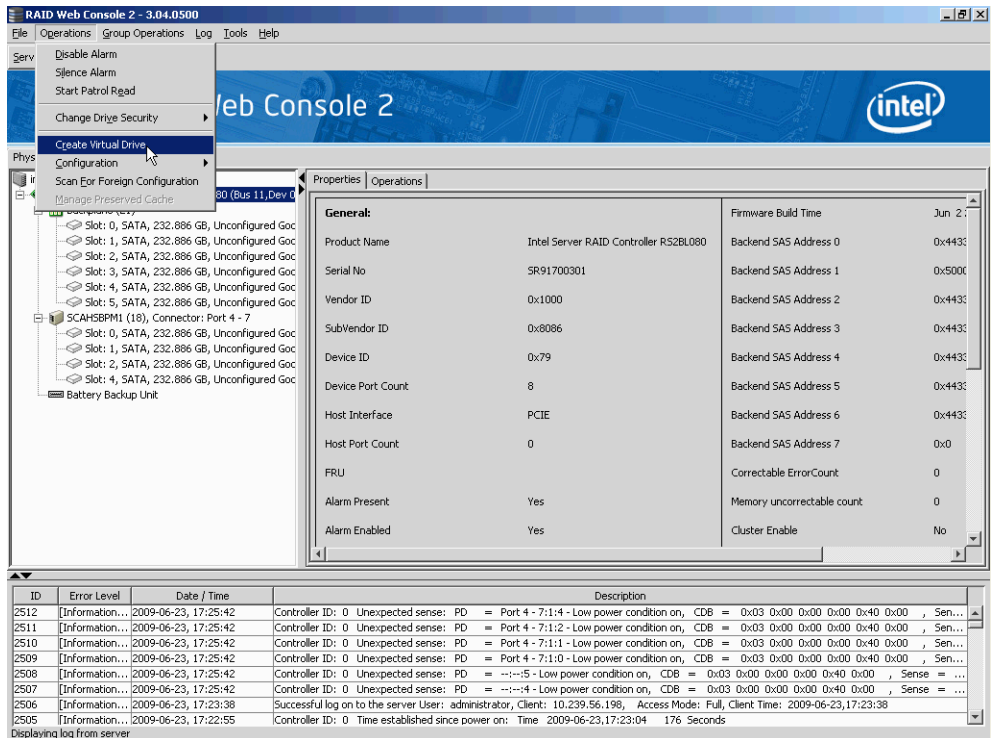

Figure 122. Virtual Drive Creation Menu
- Select the controller node and select Operations->Create Virtual Drive in the menu bar, as shown in Figure 122